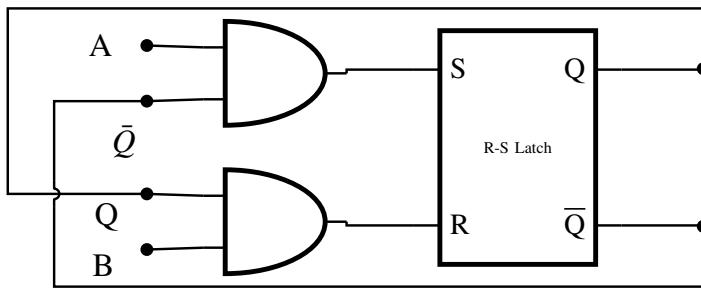

Fig. 5.34
39. The two inputs A and B are connected to an R-S latch via two AND gates as shown in Fig. 5.34. If  $A = 1$  and  $B = 0$ , the output  $Q\bar{Q}$  is